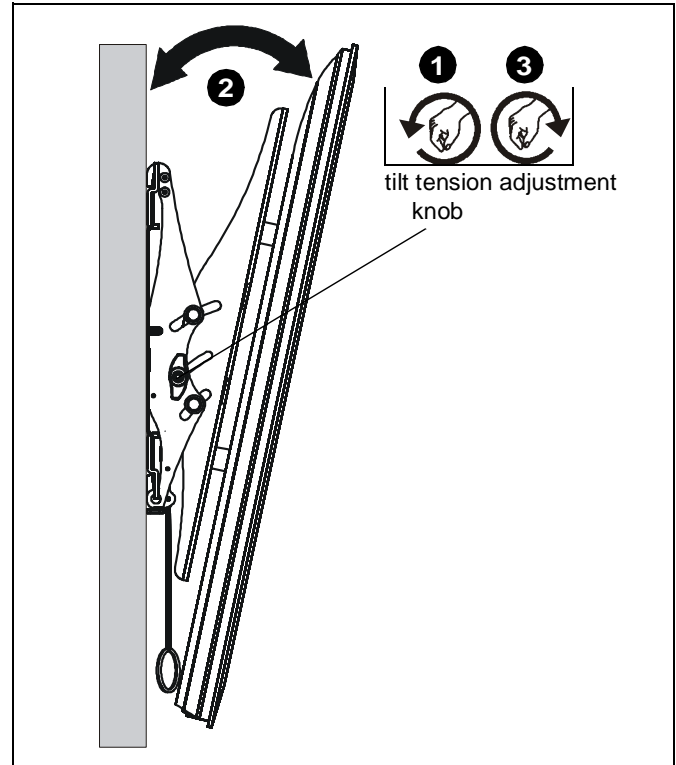

Figure 12
1. Adjust tilt tension adjustment knobs to desired tension. (See Figure 12)
2. Adjust tilt of display by pulling the top of display away from the wall until desired tilt position is reached. (See Figure 12)
3. Tighten tilt tension adjustment knobs to secure tilt position. (See Figure 12)